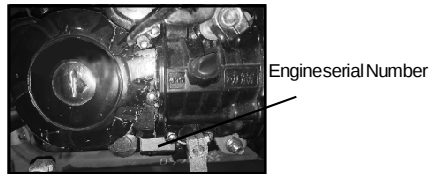

Figure 2
2. Engine serial number is stamped on the underside of left crankcase. (Figure 2)